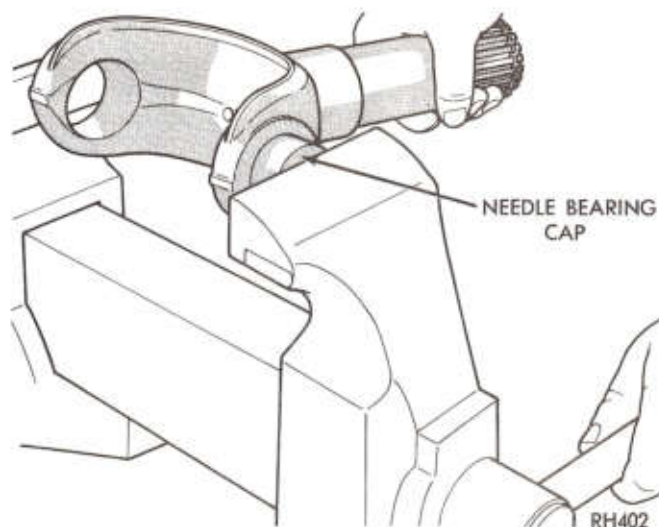
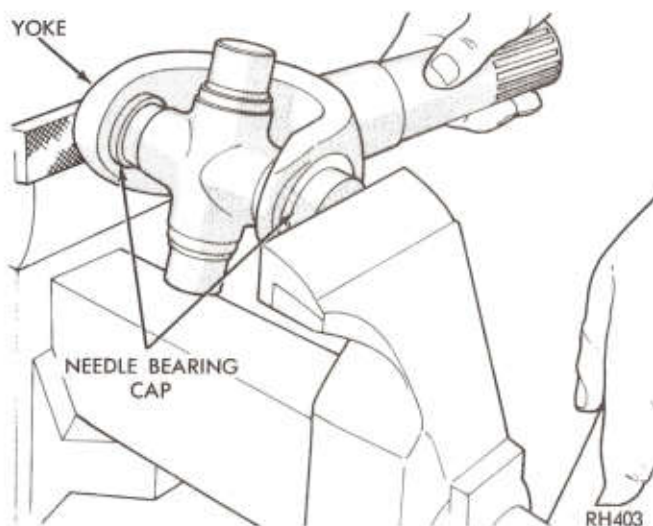

Fig. 14—Replacing Bearing Caps
Fig. 15—Pressing Cross and Cap into Yoke
(1) Insert needle bearing and cap assembly in one ear of yoke.
(2) Place yoke in vise (Fig. 14) and press needle bearing cap into proper position. Install snap ring.
(3) Remove yoke from vise and work one arm of cross into it. Insert opposite bearing cap by hand and line it up with cross.
(4) Replace yoke in vise and press cap into yoke and onto arm of cross (Fig. 15).
(5) With aid of a short plug or socket, press bearing cap into proper position. Install snap ring.
(6) Repeat procedure as outlined in items 1 through 5 for installing remaining caps and yoke.